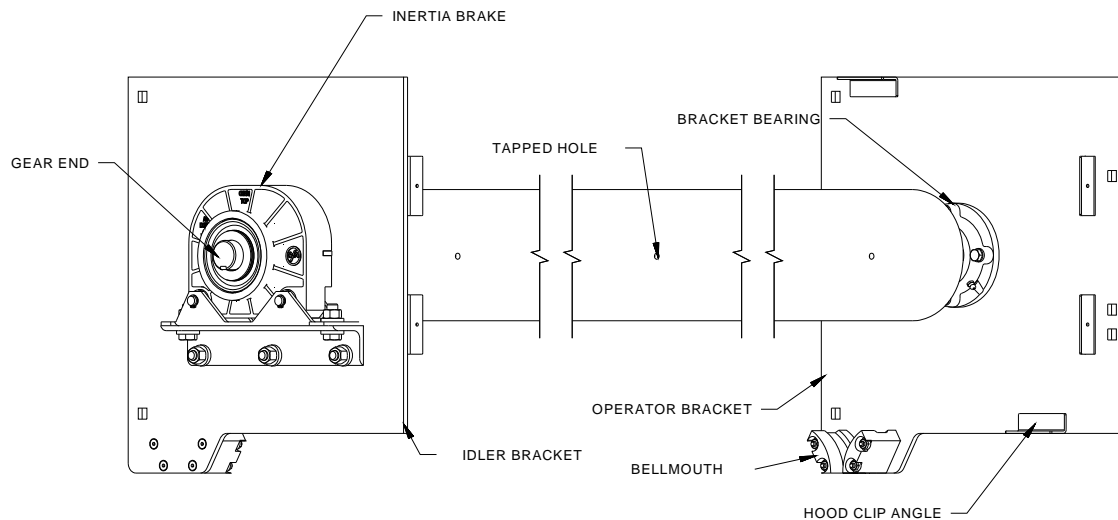

Figure 6.3 – Brackets and Barrel Prior to Installation
4. Locate the brackets. Determine the “operator” and “idler” brackets by referring to **Figure 6.3**. The “operator” bracket may vary significantly based on the operation of the door. The “idler” bracket will come preassembled with an inertia brake.